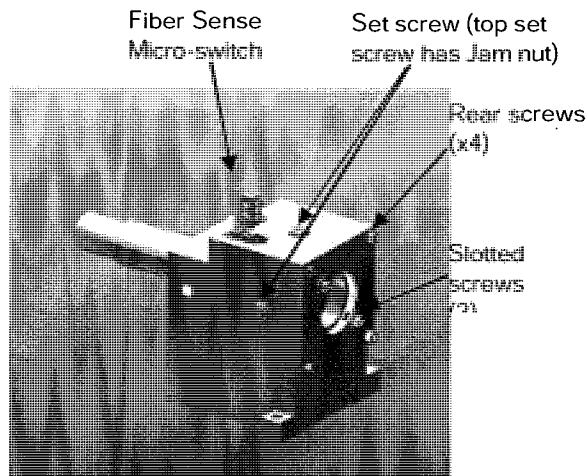

Figure 1: Fiber Focusing Assy.
4. Fiber Focusing Alignment (Ref Figure1):